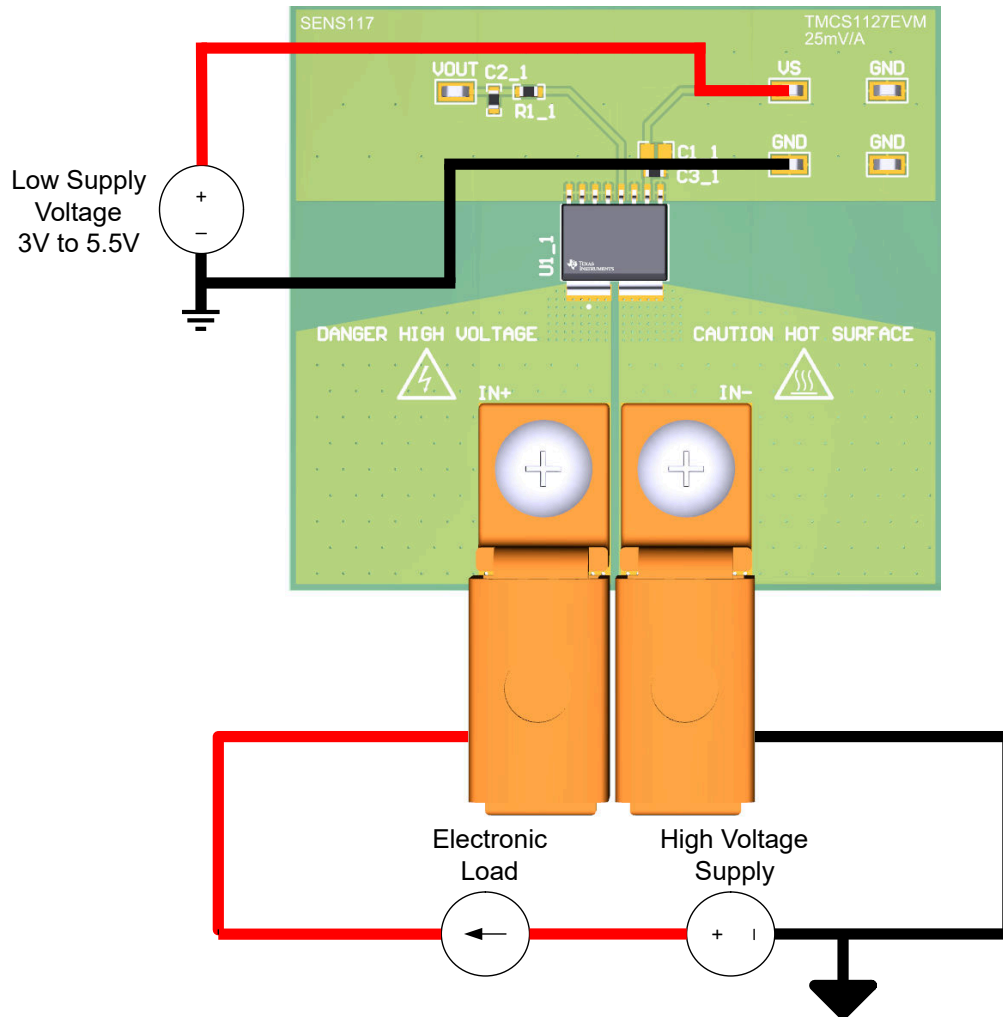

Figure 1-1. Low-Side Forward Current Setup for Reinforced Isolation
The following are instructions to set up and use the TMCS1127xEVM. Figure 1-1 shows an example of a simple, low-side setup on the A1 (25mV/A) sensitivity variant. This device has isolation, and external supplies are distinguished by "high voltage" (HV) for load and "low voltage" (LV) for DUT supply. The HV supply can be isolated and at a different potential than the LV supply.
1. As illustrated in Figure 1-1, for a low-side measurement, connect the electronic load positive input terminal to the positive terminal of a supply capable of sourcing the desired amount of maximum load current. For a high-side measurement, connect the electronic load positive input terminal to the load sourcing terminal (IN+ or IN-) of the EVM. For high-side measurement of forward current, IN- sources to the electronic load; for reverse current, IN+ sources to the load.